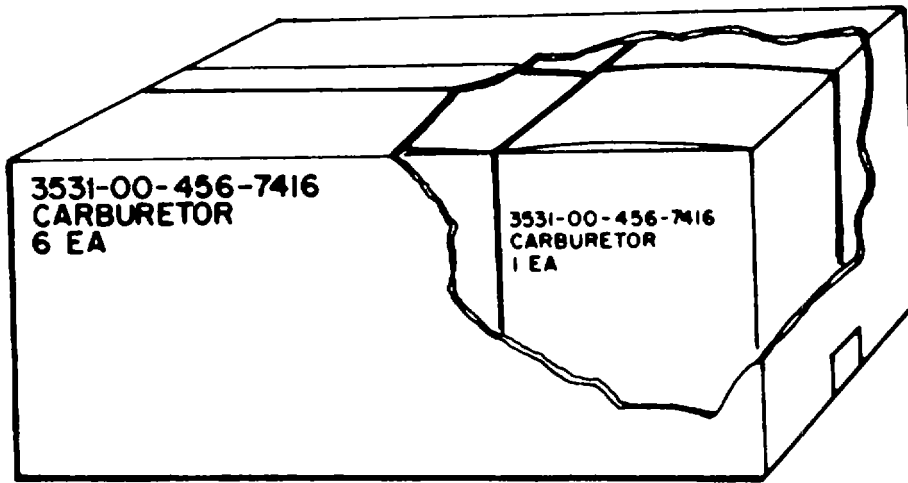

Figure E-1. Unit and Intermediate Container Identification Markings.
a. Apply the following markings on interior packs in the order listed (fig. E-1):
- (1) National stock number.
- (2) Item description.
- (3) Quantity and unit of issue.